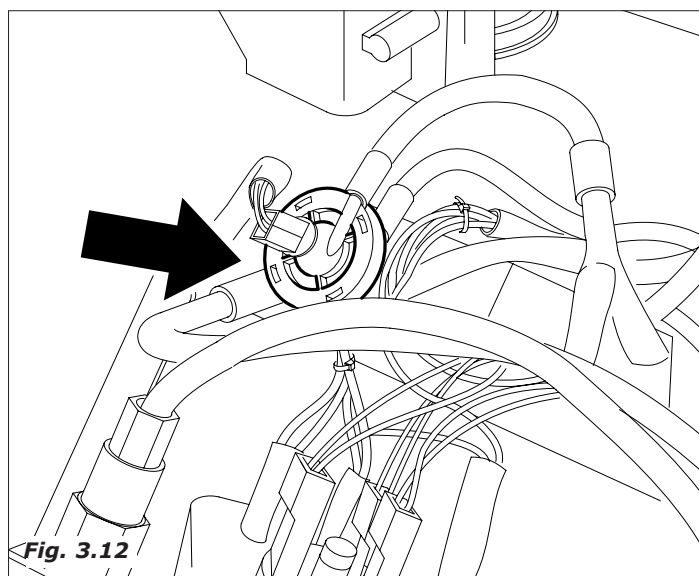

Fig. 3.12
- the rotation group geared motor brings it into the dispensing position and simultaneously compresses the ground coffee (Fig.3.12).
- the pump that dispenses the quantity of programmed water and that is controlled by a specific electronic device, (volume meter), extracting the water from the coffee boiler(Fig.3.12).